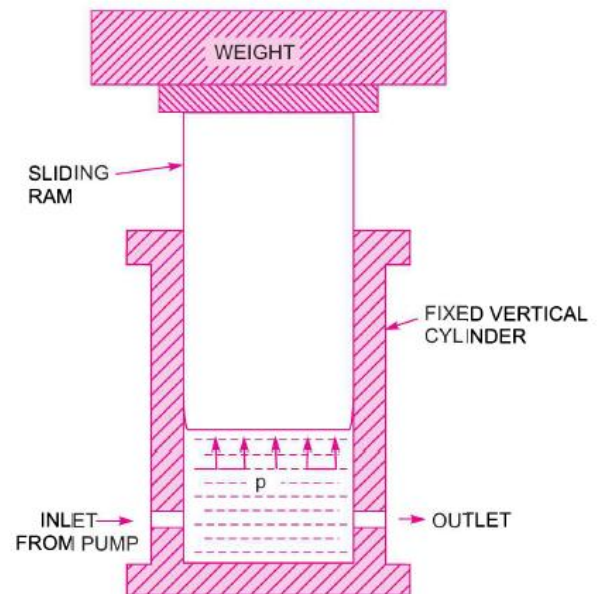

Fig.10.3 – Simple Hydraulic Accumulator
- ▶ The hydraulic accumulator consists of a sliding ram, which slides in a fixed vertical cylinder. A heavy weight is placed on the ram as shown in Fig.10.3.